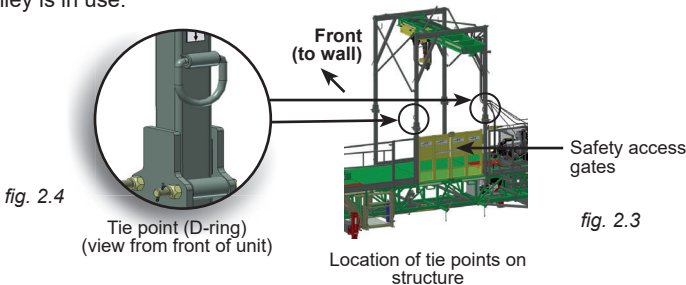

fig. 2.4
- 9- The qualified operator must make sure to be tied to an authorized fall protection tie point and must ensure that other personnel on the platform are a minimum of 6' (1,8 m) away from the open area before opening the safety access gates (see fig. 2.4, p. 24).
- 6- The qualified operator must make sure to be tied to an authorized fall protection tie point and must ensure that other personnel on the platform are a minimum of 6' (1,8 m) away from the open area before opening the safety access gates (see fig. 2.4, p. 24)